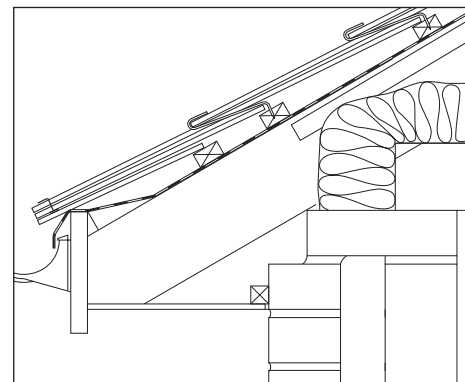

Fig. 12
- 6 Each full size slate on this course is now fixed with a 150mm long spiked hook driven into the batten between the edges of the two slates below (Fig. 12).